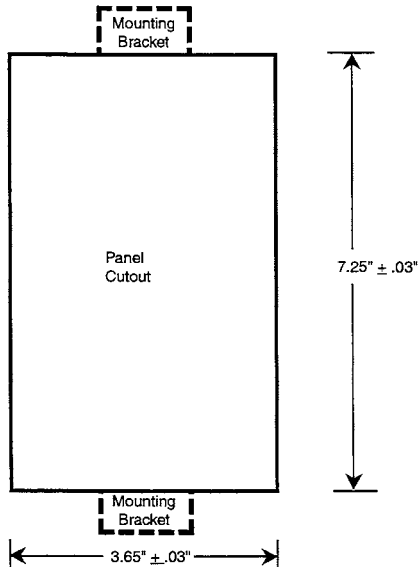

Figure 3-2: Panel Cutout Dimensions
2. Determine the appropriate door or panel location and make the panel cutout per Figure 3-2 below. Allow adequate top and bottom room for mounting bracket.